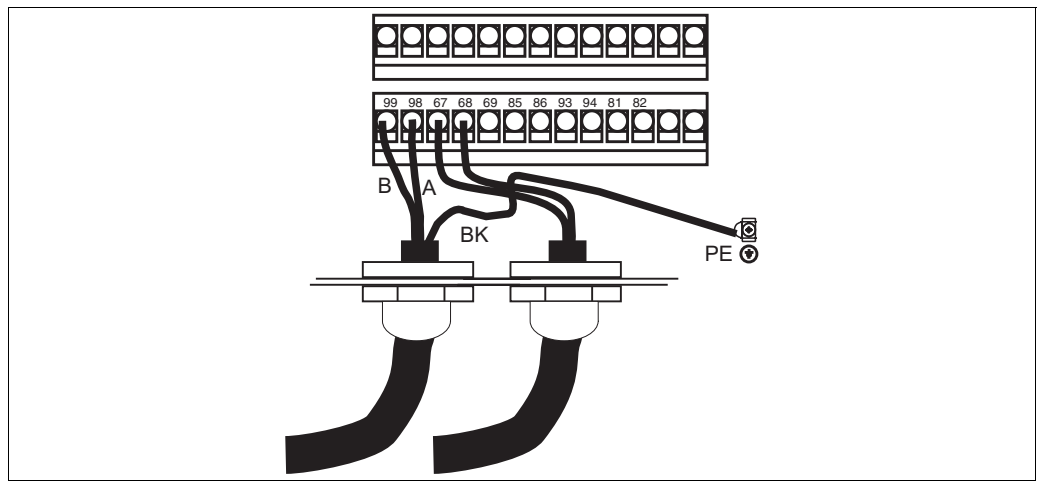

Fig. 4: DP device electrical connection
5. **Cable connection for DP devices:** Connect the cable wires of the bus cable in accordance with Fig. 4 to the terminal block.